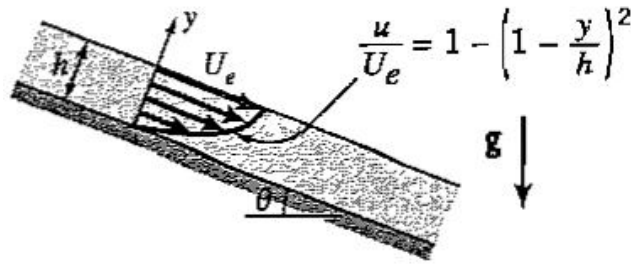

Figure P8.43
8.43 Consider the steady, laminar, fully developed flow of water of depth h down a plane inclined at an angle θ to the horizontal, as shown in Figure P8.43. The velocity profile is quadratic, as shown, and the velocity at the free surface is U_e . Show that $U_e = gh^2 \sin \theta / 2\nu$, where ν is the kinematic viscosity of water.